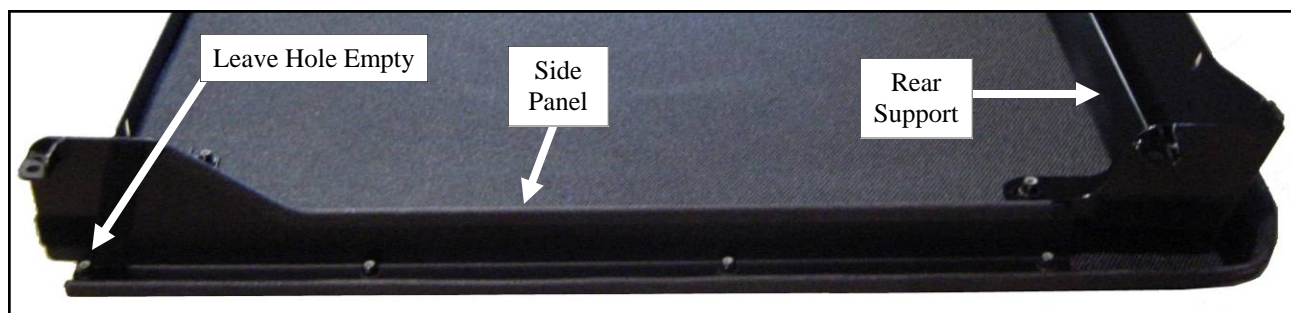

Fig. 3.3 (view of rear roof passenger side)
3.3 Per fig. 3.3, loosely assemble the side panels (one left and one right) on the outer edges of the rear roof. Use the following hardware per side: three 1/4-20 x 3/4" long Phillips head bolts, three steel washers, three plastic washers, and three locknuts. (Note: there is no steel washer required under the heads of these bolts) The nuts should just be finger tight at this time. Do not install a bolt in the front hole where shown in fig. 3.3 as this will be installed later (in step 4.7 on page 7).